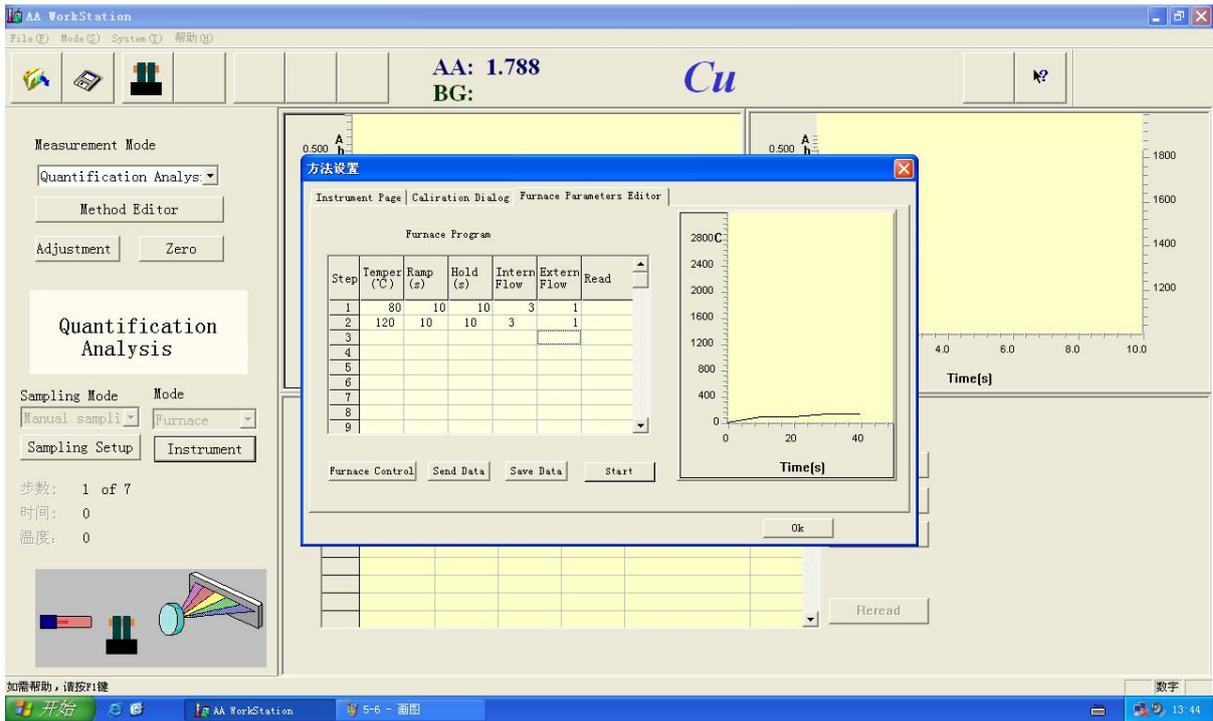

Figure 5-7
9. Input the No.2 program, see Figure 5-7